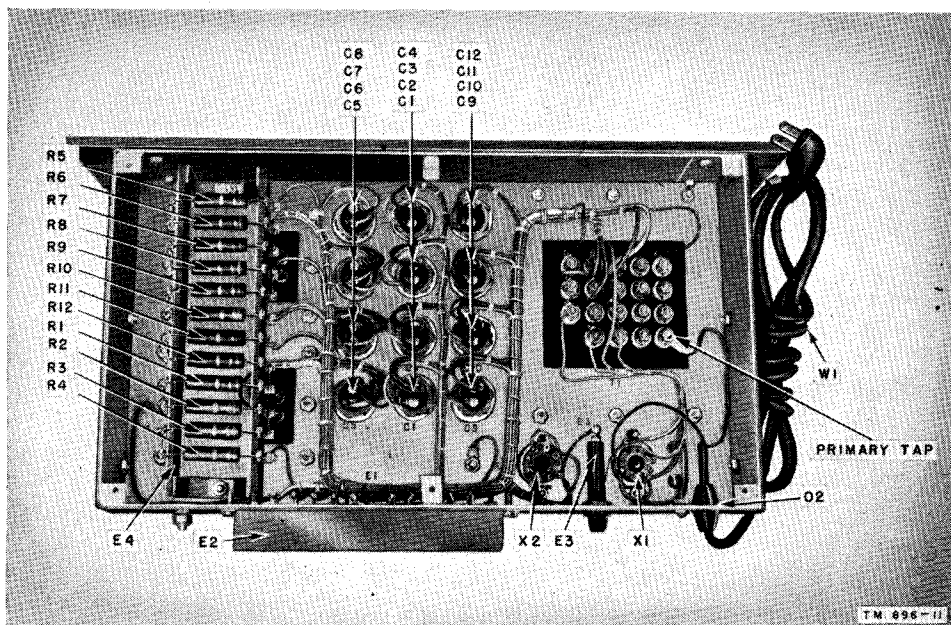

Figure 44.1 (Added.) Power Supply Unit RA-74-D, with serial numbers 1 through 390, Order No. 12618-Phila-47, chassis, bottom view.
Page 60, Fig. 44.1. Add the following to the caption:
e. A-C INPUT. Before plugging the * * * in figure 12. The primary tap of Power Supply Unit RA-74-D is indicated in figures 44.1 and 44.2. Connect the primary * * * bottom cover plate.